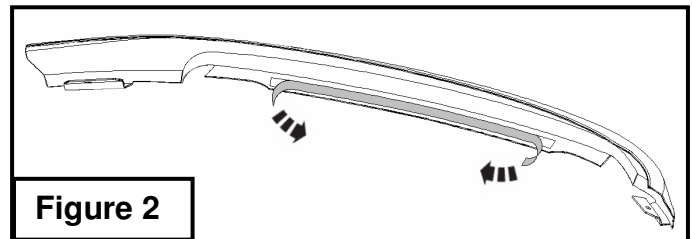

Figure 2
4. Partially peel the 3M tape backing down 2" on each side. **(Fig. 2)**